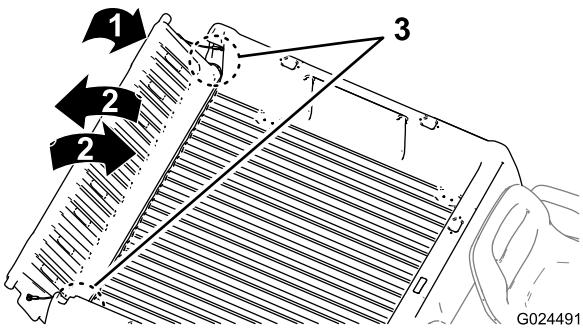

Figure 12
2. Rotate the tailgate to approximately 45° position (Figure 12).
3. Using a short, shaking motion to rotate the tailgate back and forth several times (Figure 12).